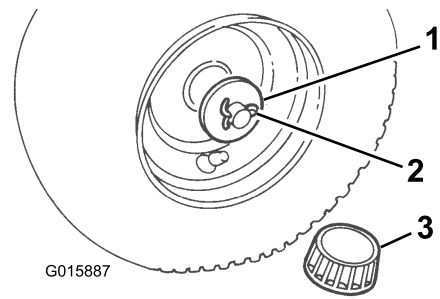

Figure 2
- Push the hub cap (Figure 2) onto the end of the axle.
- Insert the cotter pin through the axle and bend the ends of the pin apart (Figure 2).